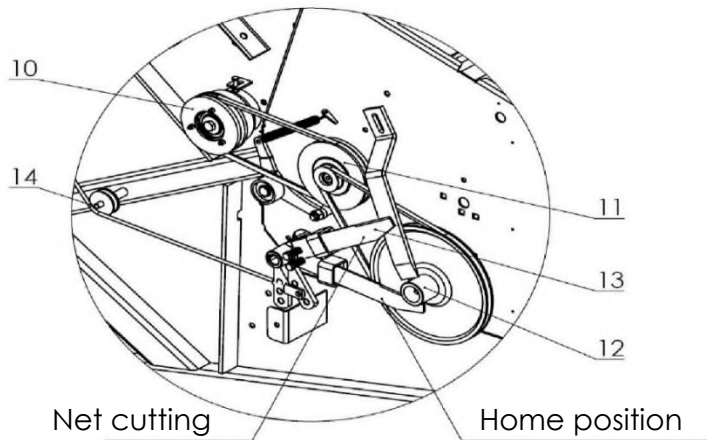

Figure 42. The location of the measurement blade
The measurement blade (13) location in the baler is shown in Figure 42. The measurement blade, controlled by a revolving motion after slipping from the hub thread of the belt wheel casing (12), makes the blade impact on the counterknife and cut off the binding net.